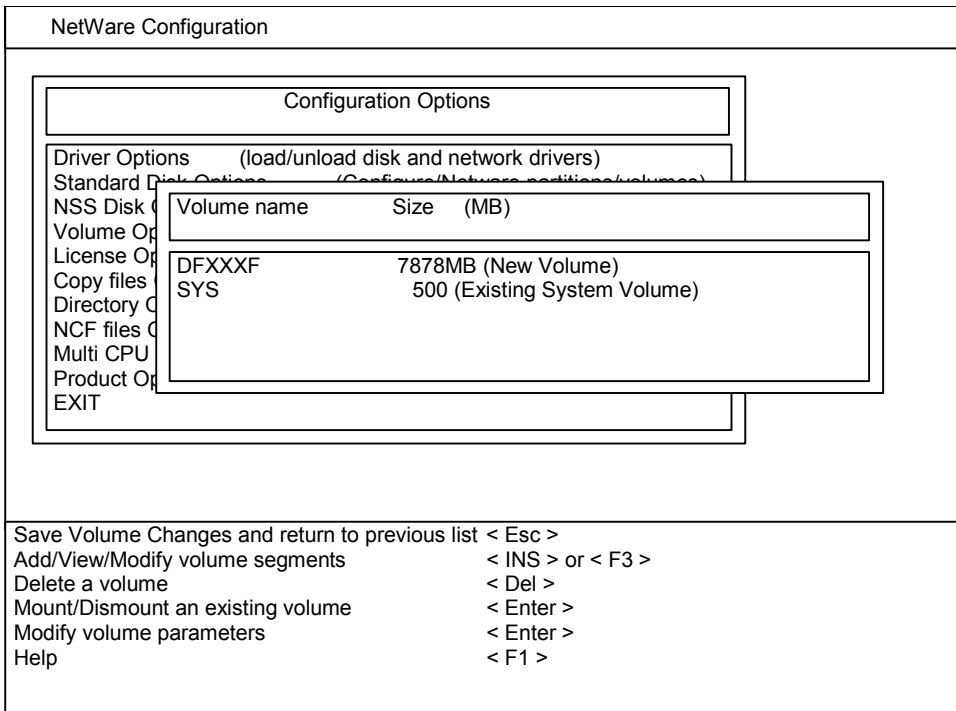
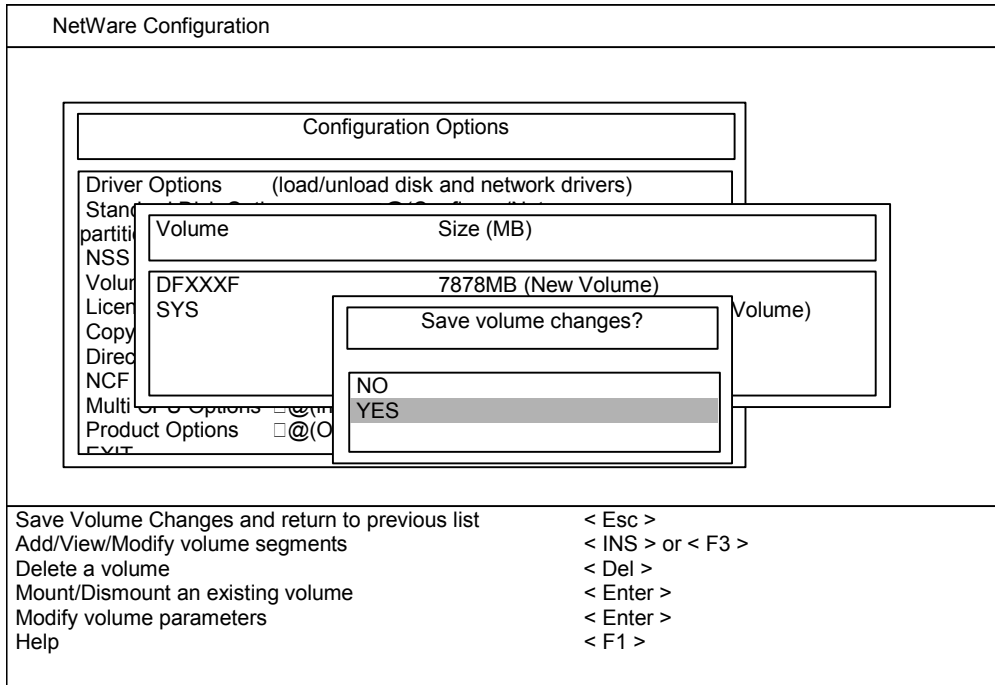

Figure 3.13 Saving the Specified New Volume
Figure 3.14 Saving All New Volumes
8. On the Volume Disk Segment List screen, press **F10** to save the new volume information and return to the volume list (see Figure 3.13).
9. Repeat steps (2) through (8) until you have assigned all new 9500V devices to volumes.
10. When you are finished assigning new devices to volumes, press **Esc** to save your volume changes. When the confirmation message appears (see Figure 3.14), select **Yes** and then press **Enter** to save all changes and return to the Available Disk Options screen.